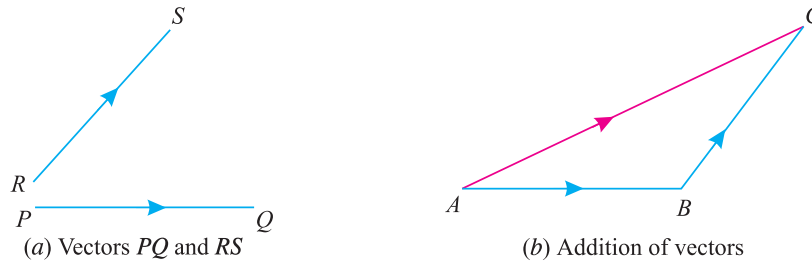

Fig. 1.3.
- Addition of vectors.** Consider two vectors  $PQ$  and  $RS$ , which are required to be added as shown in Fig. 1.3. (a).
Take a point  $A$ , and draw line  $AB$  parallel and equal in magnitude to the vector  $PQ$  to some convenient scale. Through  $B$ , draw  $BC$  parallel and equal to vector  $RS$  to the same scale. Join  $AC$  which will give the required sum of vectors  $PQ$  and  $RS$  as shown in Fig. 1.3. (b).